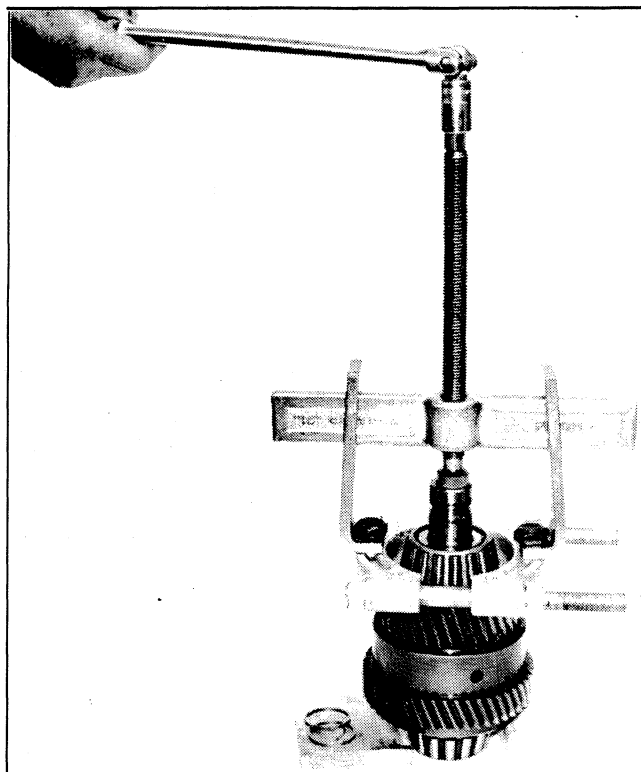

Figure 8-1. Pulling the Rear Bearing Cone from the Reverse Clutch Shaft.
3. Remove roller bearing (21) inner race using guillotine-type puller. See Figure 8-1.